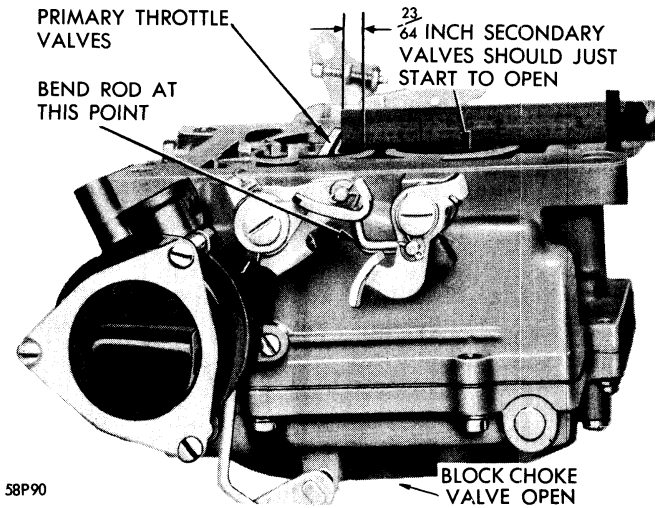

Figure 105—Checking Secondary Throttle Opening
**Secondary Throttle Lever Adjustment**—To check the secondary throttle lever adjustment, block the choke valve in the wide open position and invert the carburetor. Slowly open the primary throttle valves until it is possible to measure between the lower edge of the primary valve and the bore (opposite idle port), as shown in Figure 105. At this measurement, the secondary throttle levers should contact the bosses on the flange at the same time.